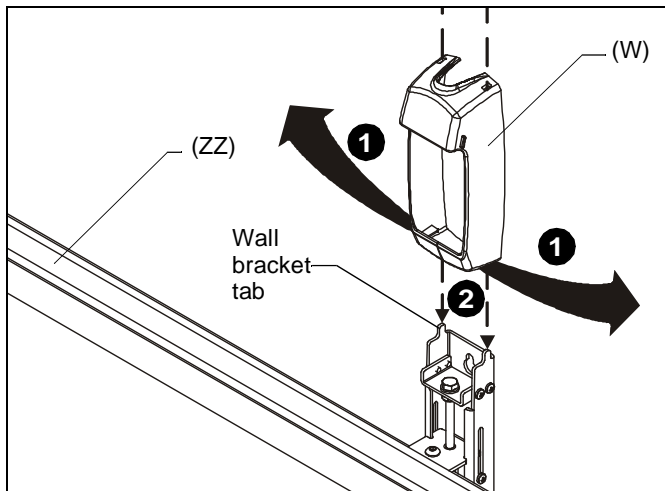

Figure 19
1. Open the lower flaps of the wall bracket cover (W) outward. (See Figure 19)
2. Slide the cover downward, hooking the top of the wall bracket covers (W) onto the tabs on top of wall assembly brackets. (See Figure 19)
3. Slide the lower flaps of the wall bracket cover (L) under the bottom of the wall assembly brackets (K). (See Figure 19)